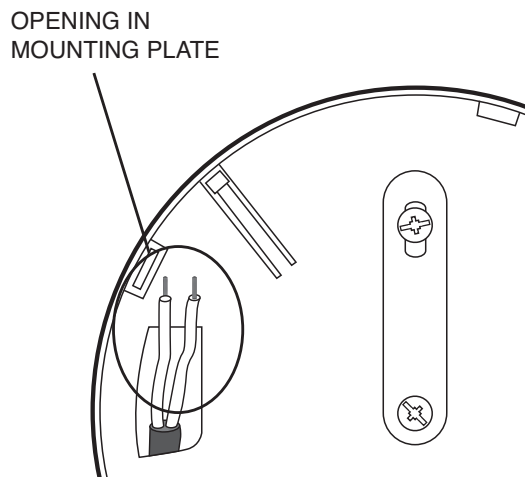

Figure 9b
2. Bring the cable through the opening in the mounting plate (before screwing it to the ceiling) see figure 9b.